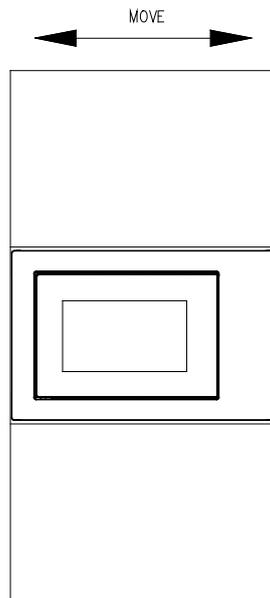

Fig.3
C) Move the product in parallel in the kitchen cabinet according to the direction of the arrow in the figure, and keep it centered. (Fig.3)